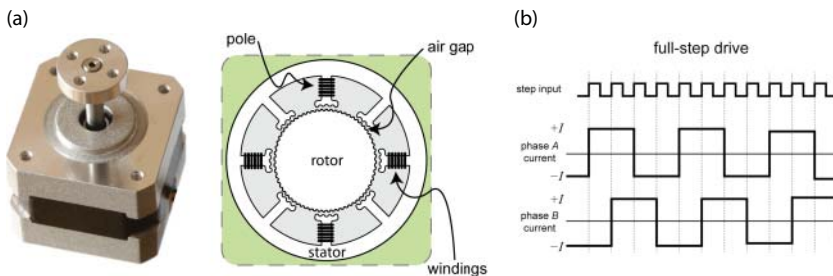

Figure 10-6: (a) Stepper motor external and internal structure, and (b) full- and half-step drive signals
Stepper motors, as illustrated in Figure 10-6(a), have toothed permanent magnets that are fixed to a rotating shaft, called *the rotor*. The rotor is surrounded by coils (grouped into *phases*) that are fixed to the stationary body of the motor (*the stator*). The coils are electromagnets that, when energized, attract the toothed shaft teeth in a clockwise or counterclockwise direction, depending on the order in which the coils are activated, as illustrated in Figure 10-6(b) for full-step drive:
- **Microstep:** Uses sine and cosine waveforms for the phase currents to step the motor rather than the on/off currents illustrated in Figure 10-6(b) and thus allows for higher step resolutions (though the torque is significantly reduced).